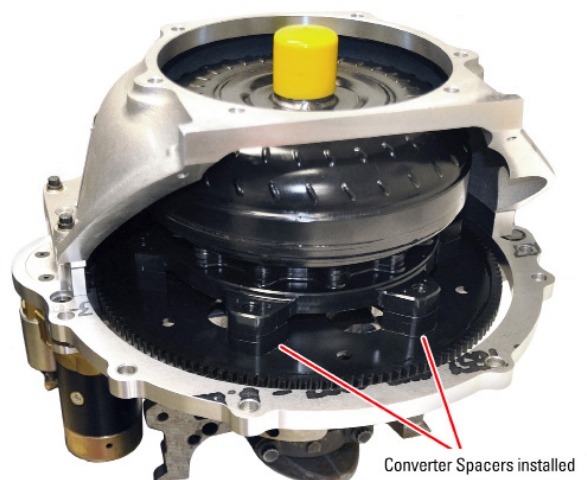

**Figure 6: Complete assembly**
**Step 7:** The transmission locates via the dowel pins pressed into the Bell Spacer (see Figure 5). After installing the Torque Converter (#14) in the transmission, slide the Bellhousing (#11) over the dowel pins; the pilot on the Torque Converter will locate inside the Crankshaft Adapter. Secure the transmission to the engine using the long Bellhousing Bolts (#12) – long bolts include five (5) 2.500" long and one (1) 2.750" long counterbore bolts. See Figure 6 for completed assembly.